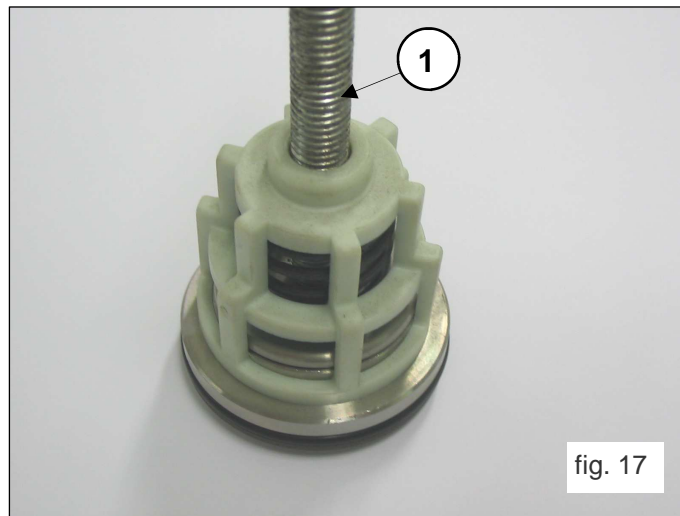

fig. 17
Disassemble the suction and outlet valve units, screwing a sufficiently long M8 screw in such a way as to be able to reach the valve plate and extract the valve guide from the valve seat (fig. 17, pos. 1)